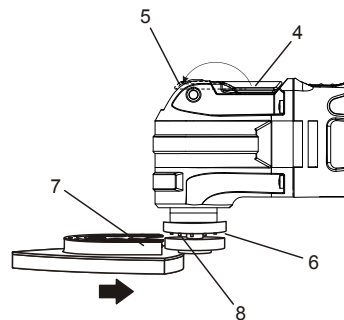

Fig. 2
2. Lift the tool less accessory holder release lever (4) up and toward the front of the tool as far as it will go (5) (Fig. 2).